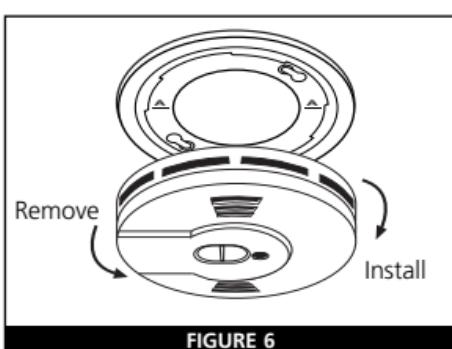

FIGURE 6
1. To activate the alarm, install the alarm on the mounting bracket (figure 6) and rotate the alarm clockwise (as indicated on the alarm cover) until the alarm ratchets into place (the ratcheting function allows for aesthetic alignment). NOTE: The alarm will mount to the bracket in four (4) positions (every 90 degrees).